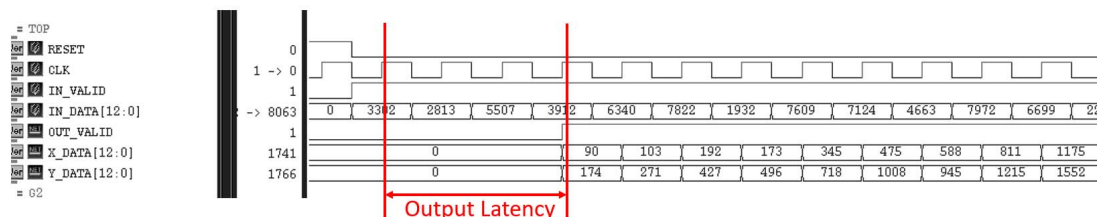

Figure 6: Output latency timing diagram
9. **Ensure that the latency of your design is less than 5 clock cycles.** Latency definition: the number of cycles between the first input and the first output, as illustrated in Figure 6.